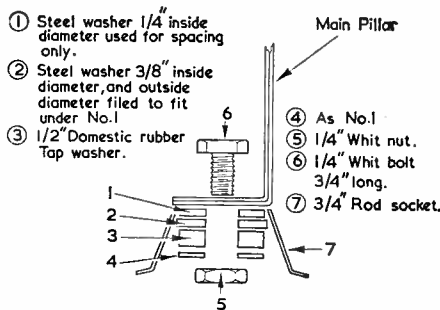

Fig. 4. Base with friction stay
Fig. 4 (a). Wires with insulation which melts at soldering temperatures may take up this appearance at a solder joint. The insulation extends right up to the solder blob. A joint of this nature should be suspected (b). In this joint the solder extends out from the blob along the wire. Such a joint may be considered reliable
may be enamel, or nylon and acetate fibre. If you get a solder joint of this nature in which the insulation extends right up to the solder blob (Fig. 4 (a)), it may be giving you trouble because the insulation might not have been fully melted during soldering. If, on the other hand, the solder blob extends along the wire
a little (Fig. 4 (b)), you know the joint is O.K. because the conductor was capable of drawing some of the solder away from the blob during soldering."
The base consists of a $\frac{3}{4}$ in wardrobe rod socket and a series of washers which, when assembled, give a very strong but movable base (see Fig. 4).
- 1 3/4in metal wardrobe rod socket (see text and Fig. 4)